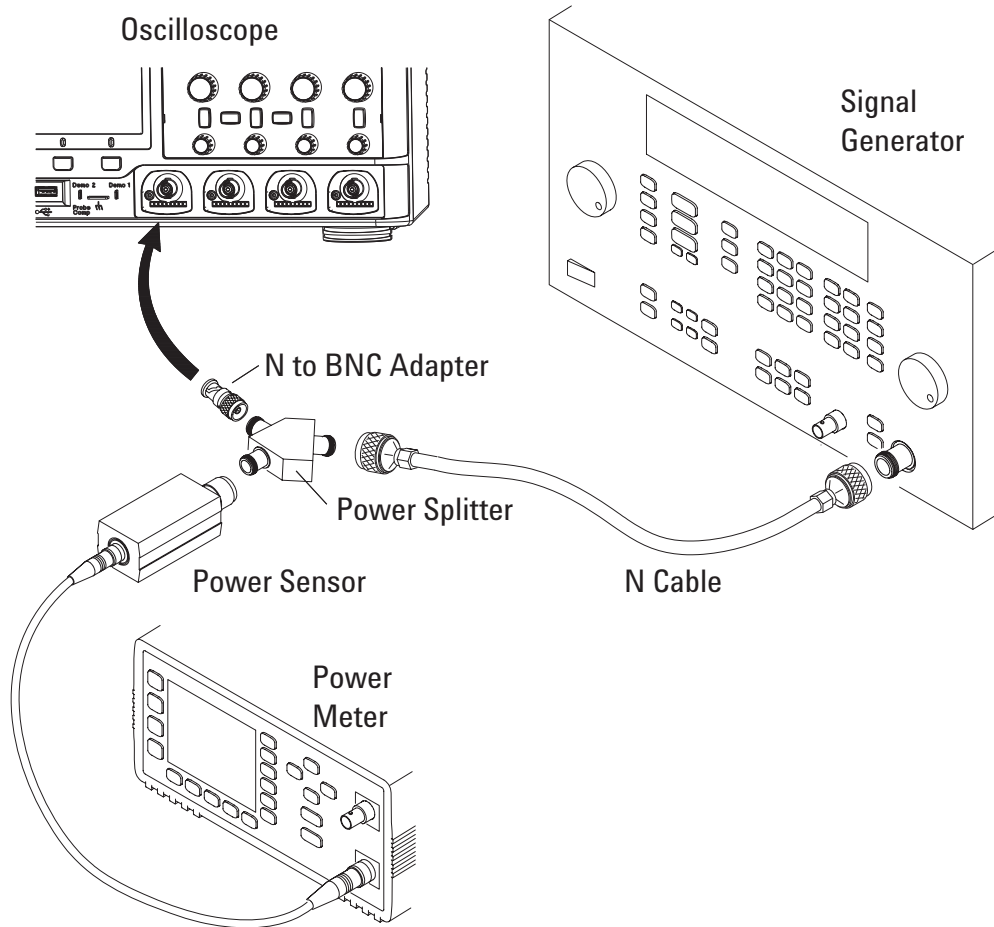

Figure 7 Setting Up Equipment for Bandwidth (-3 dB) Verification Test
- 1** Connect the equipment (see Figure 7).